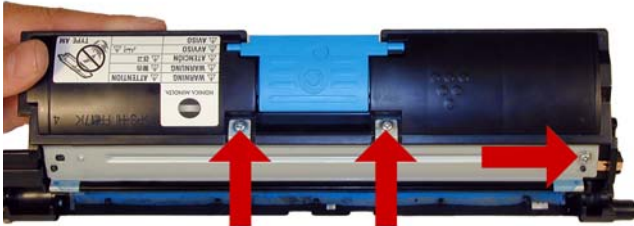

Figure 15
11) Remove the three screws on the sealing blade assembly. See **Figure 15**